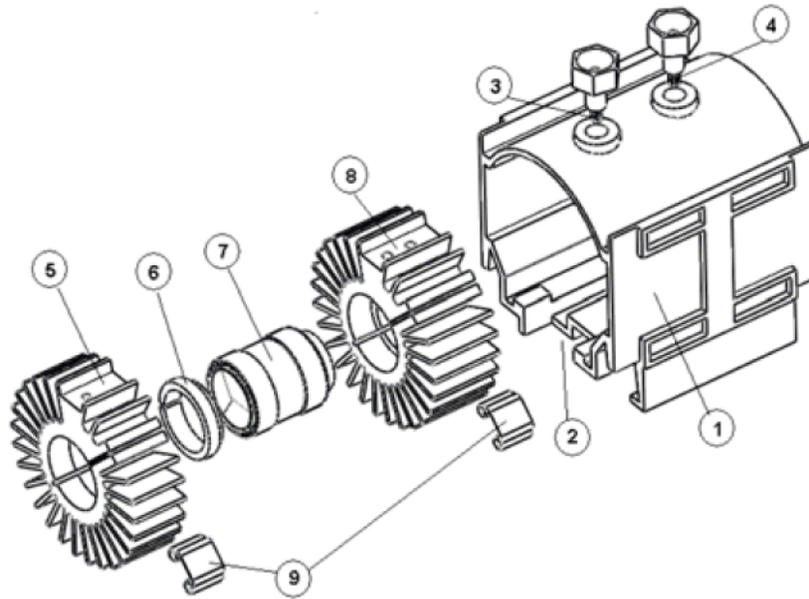

Figure 5-1. Lamp bulb assembly components.
1. Remove both terminals (see Figure 5-1) from the blue housing.
6. The mounting ring (see Figure 5-1) might still be inside the front heat sink. Remove it and set it aside. You will need it if the new bulb does not have one.